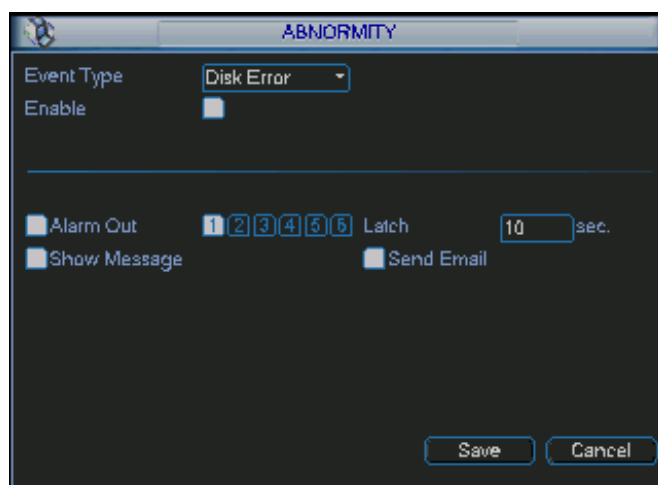

Figure 5-32
- Alarm set: Click alarm set button, the interface is shown as below. See Figure 5-32. (This interface is just like the abnormality setup). Please refer to chapter 5.5.2 for detailed information.